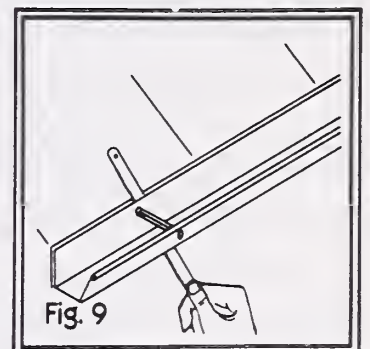

Fig. 9
12. A different procedure is required if the hanger is a sleeve and spike type. If so, you must free the gutter by cutting the spike with a hacksaw blade (fig. 9).